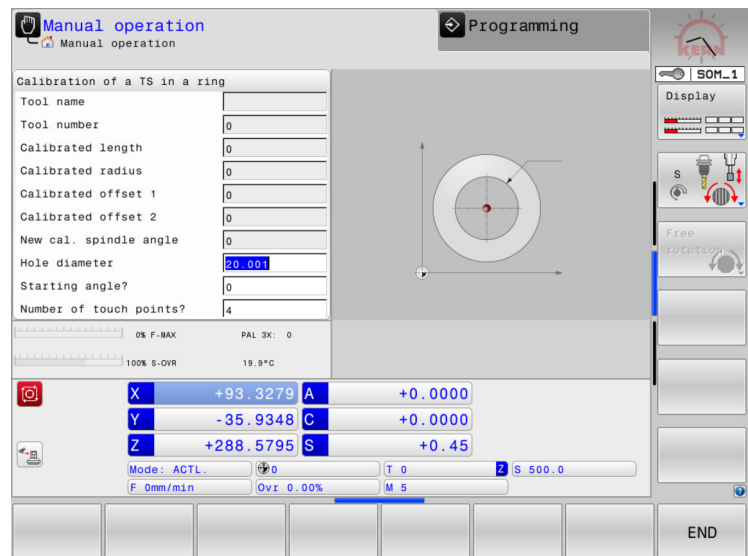

Fig. 69: Setting ring radius
9. Enter the radius of the setting ring Fig. 69/1.